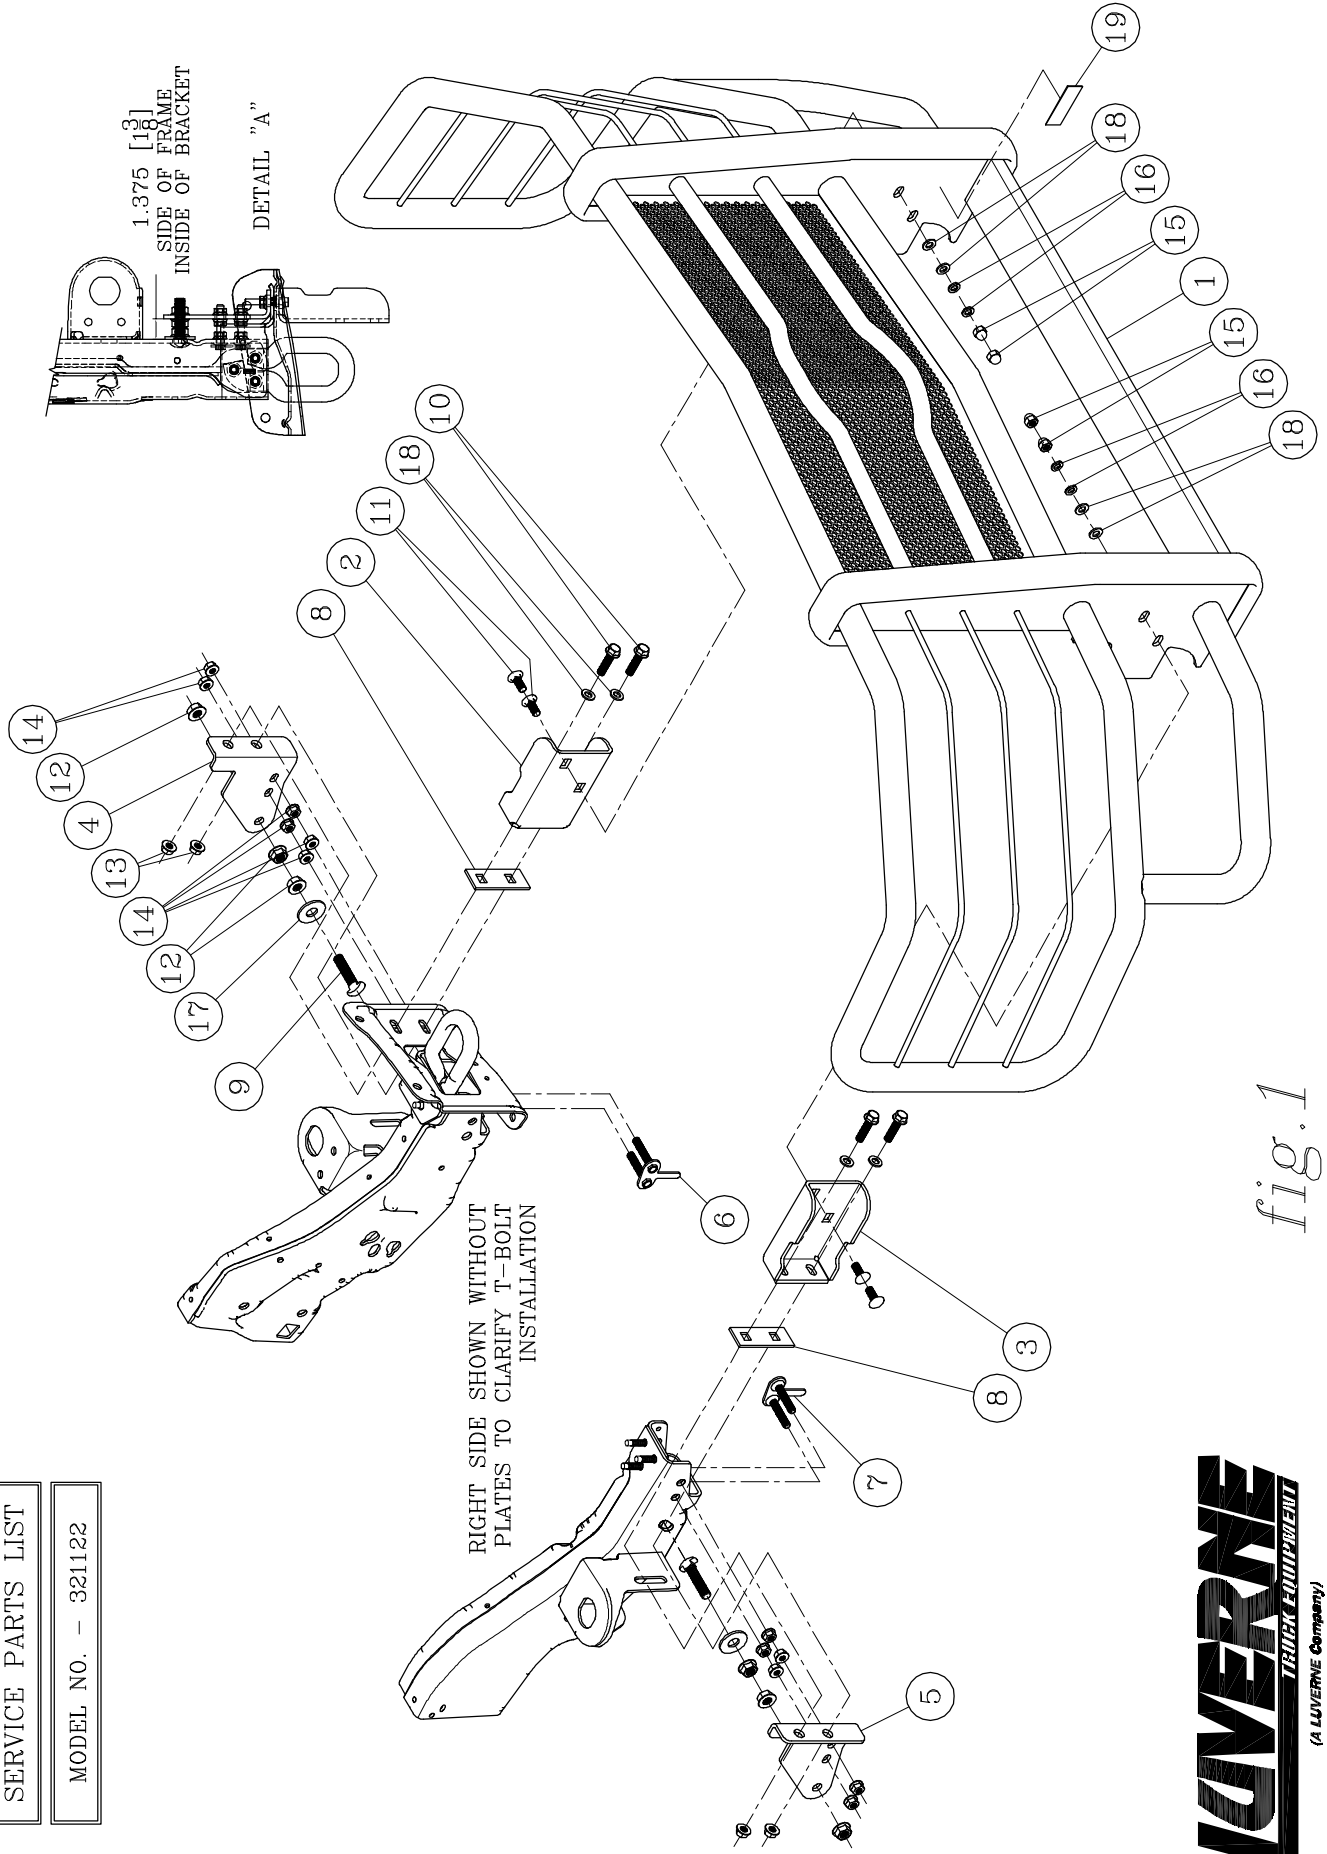

fig. 1
9. INSERT THE ASSEMBLED MOUNTING BRACKET INTO THE HOLES IN THE FRAME AND FASTEN WITH 1/2"-13 SERRATED FLANGE NUTS (ITEM #13) AS SHOWN IN *fig. 1*. HAND TIGHTEN ONLY AT THIS TIME.